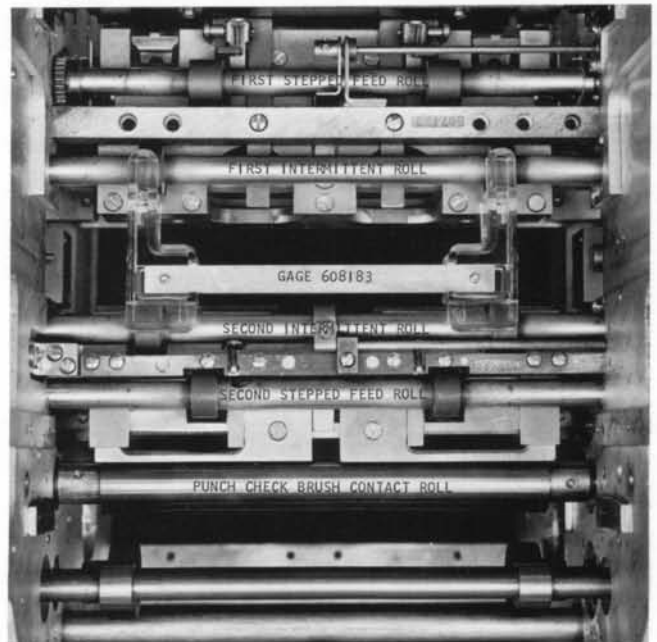

Figure 38. Position of Gage at Punch Station
unit to act as a guide (Figure 38).
4. Re-install the gage, P/N 608183, in the area where the punch unit was removed (Figure 38).